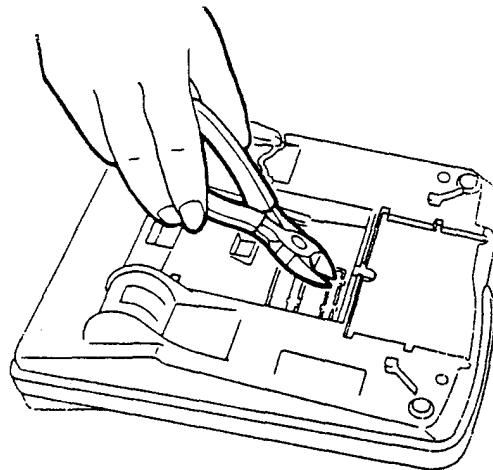

Figure 1-51 Removing the Knockouts to Install ADA (1)-W (BK) Unit or ADA (2)-W (BK) Unit
3. Remove the knockout (second from the top) on the bottom of the Multiline Terminal. [Refer to Figure 1-51 - Removing the Knockouts to Install ADA (1)-W (BK) Unit or ADA (2)-W (BK) Unit.]